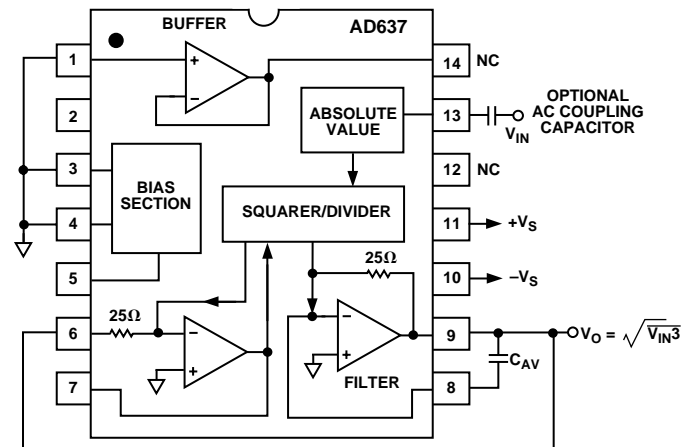

Figure 2. Standard RMS Connection
- ¹Accuracy specified 0-7 V rms dc with AD637 connected as shown in Figure 2.
The AD637 is simple to connect for a majority of rms measurements. In the standard rms connection shown in Figure 2, only a single external capacitor is required to set the averaging time constant. In this configuration, the AD637 will compute the true rms of any input signal. An averaging error, the magnitude of which will be dependent on the value of the averaging capacitor, will be present at low frequencies. For example, if the filter capacitor C_{AV} , is 4 μ F this error will be 0.1% at 10 Hz and increases to 1% at 3 Hz. If it is desired to measure only ac signals,
the AD637 can be ac coupled through the addition of a non-polar capacitor in series with the input as shown in Figure 2.